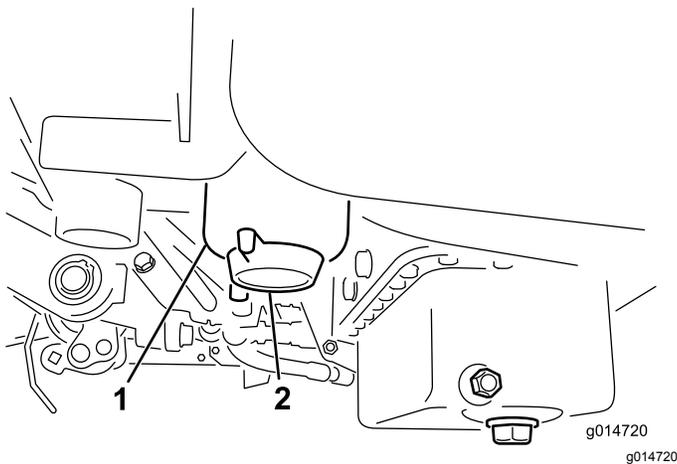

Figure 34
2. Clean the area where the filter canister mounts (Figure 34).
4. Open the filter drain plug (Figure 34).